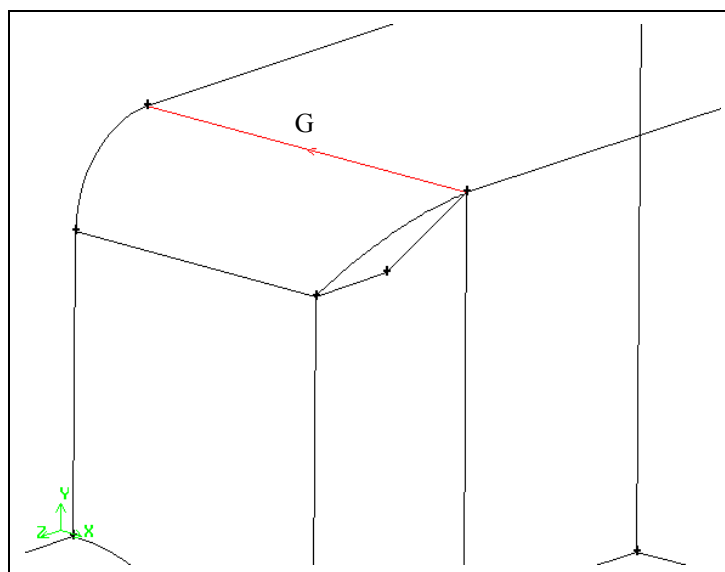

Figure 4-17: Edge to be used for sweep face
- c) Select the edge marked G in Figure 4-17.